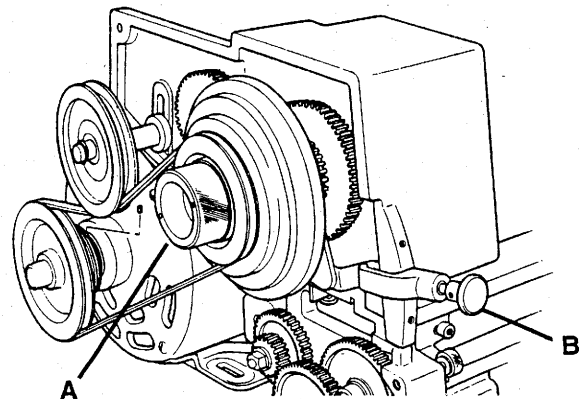

FIGURE 7
3. Pull coupling (A Figure 7) to disengage pulley and gear.
- Push on coupling (A Figure 7) and turn spindle pulley by hand until coupling slides in, locking pulley and gear together.
LEAD SCREW DIRECTION LEVER (B Figure 7) has three positions. Center position is neutral — gear train is disengaged and lead screw does not turn. The upper and lower holes are either forward or reverse positions depending on the gear set up.